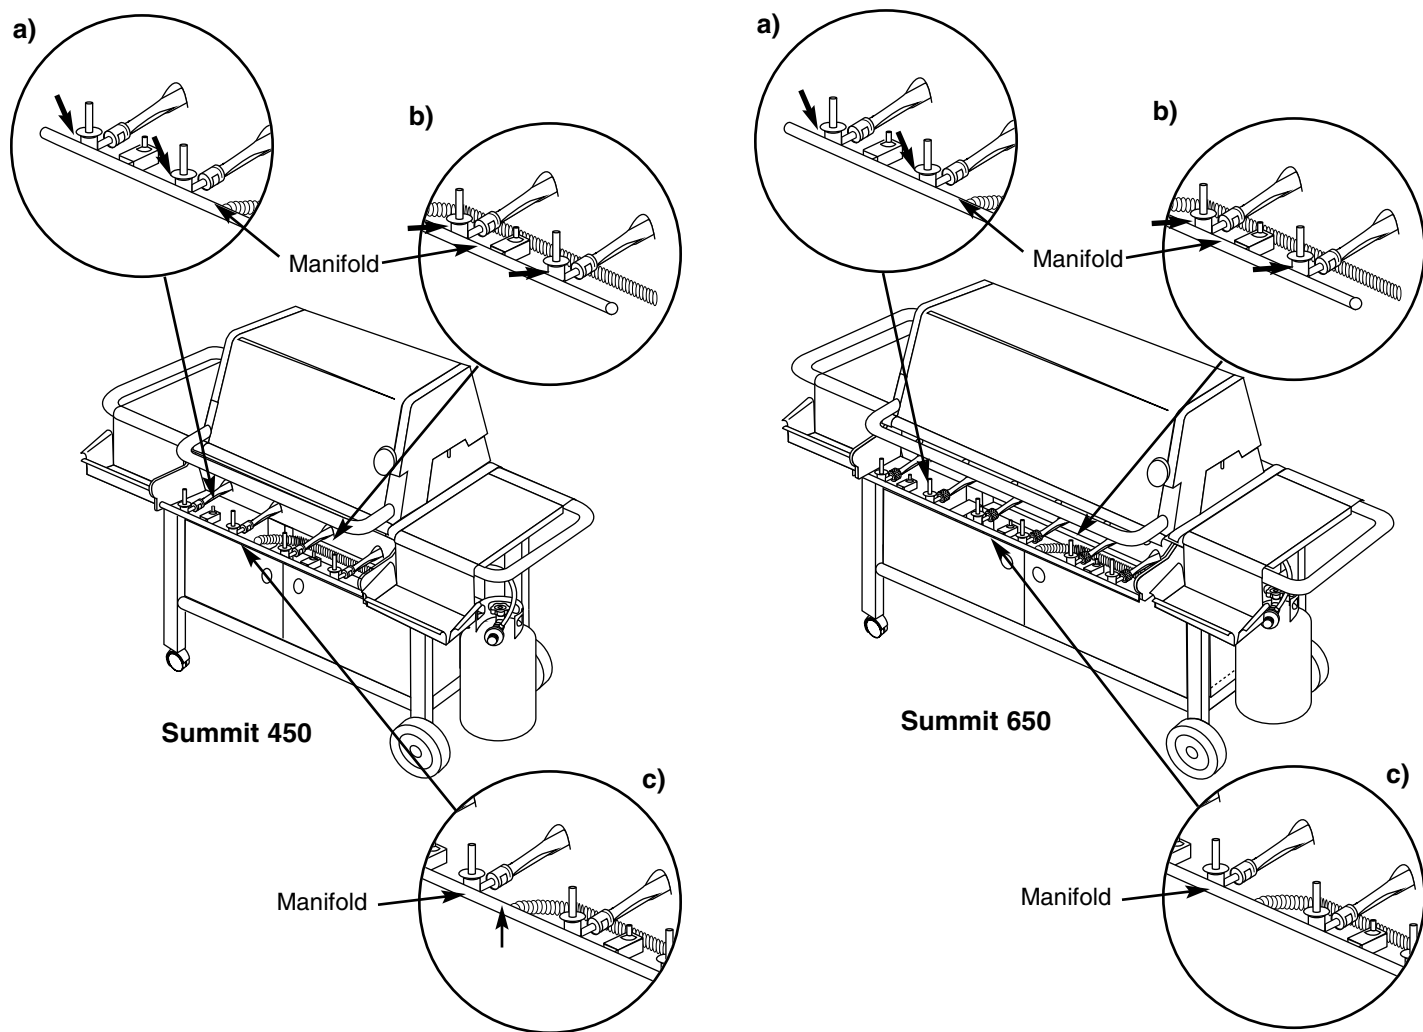

Figure 19
- a) Left valves to manifold connection. Figure 19 (a).
- b) Right valves to manifold connection. Figure 19 (b).
- c) Gas line to manifold connection. Figure 19 (c)